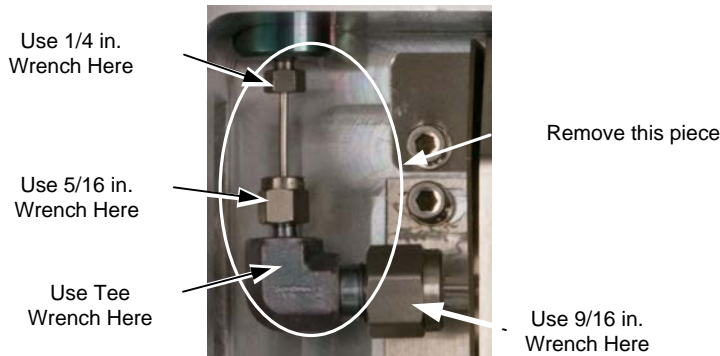

Fig. 5.5. Left-Side Carrier Connections
4. Remove the left-side carrier line as follows (see Figure 5.5):
- a. Use the ABB Tee Wrench to hold the nut as shown in Figure 5.5.
3. Reconnect the left-side carrier lines to the furnace (see Figure 5.5) as follows, but do not tighten the connections: